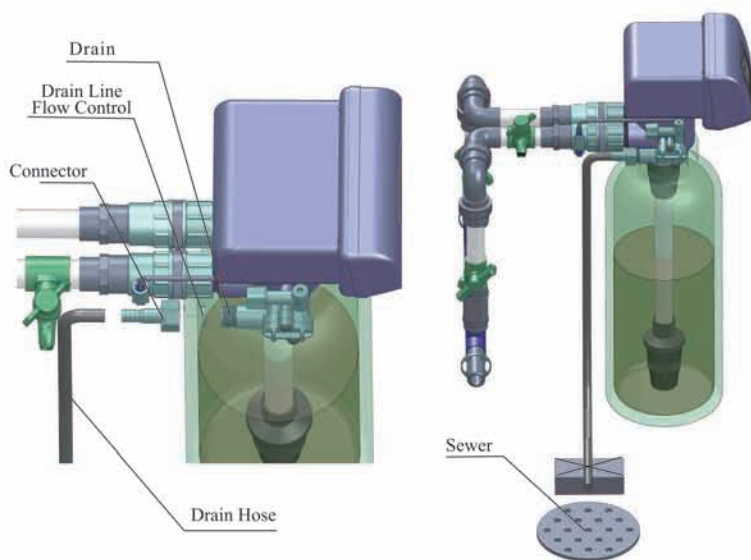

Figure1-4
- If the valve belongs to time clock type, there are no step ② and ③.
⑤ **Install drain pipeline**
- a. As the Figure 1-4 shows, slide the drain hose connector into drain outlet.
- d. Locate the drain hose well as the Figure1-4 shows.
- Be sure not connect drain with sewer directly, and leave a certain space between them, avoid wastewater being absorbing to the water treatment equipment, such as showed in the Figure1-4.
⑥ **Connect brine tube**